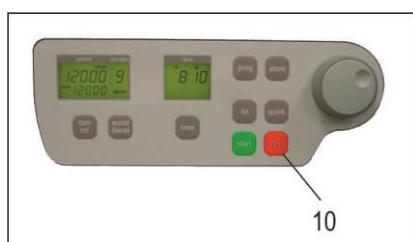

Figure 25
For all number marked text, please refer to Figure 25.
With the "stop" key (10), the run time can be interrupted, at any time, (see Figure 25). After pressing the key, the centrifuge decelerates with the respective pre-selected intensity, down to a standstill.